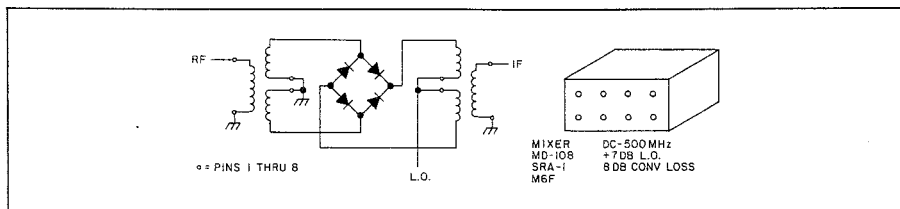

Fig. 1. Common doubly-balanced mixer design for Dc-500 MHz.
1), and Relcom (M6F). I have been able to obtain and use all of these units and find them excellent in their application. The devices exhibit very good isolation between all ports, keep spurious responses to a minimum, and, having a slightly higher conversion loss than singly-balanced mixers, require an amplifier following the mixer. This is a very small price to pay for the performance they give. See Fig. 1 for details.